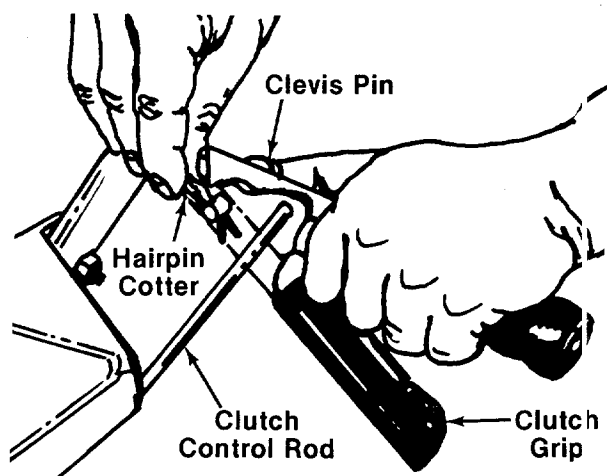
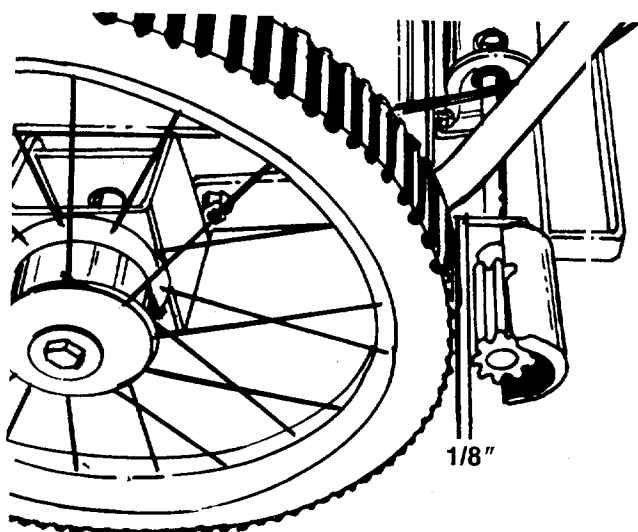

FIGURE 7.
FIGURE 9.
1. Remove hairpin cotter and clevis pin which secure clutch grip to the right hand handle. See figure 7. Remove clutch grip.
3. Hook other end of clutch control rod into clutch grip. Secure clutch grip to handle with clevis pin and hairpin cotter. See figure 7.
- With the drive clutch grip released as shown in figure 7, there should be a minimum clearance of 1/8" between the drive pinions and wheels. See figure 9. With the clutch engaged (clutch grip squeezed), the pinions should engage solidly into the tread of the wheels.
Clearance between drive pinion and drive wheel should be approximately 1/8" when drive clutch grip is released. Refer to figure 9. Excess clearance will cause premature belt wear. Adjust cable as necessary.